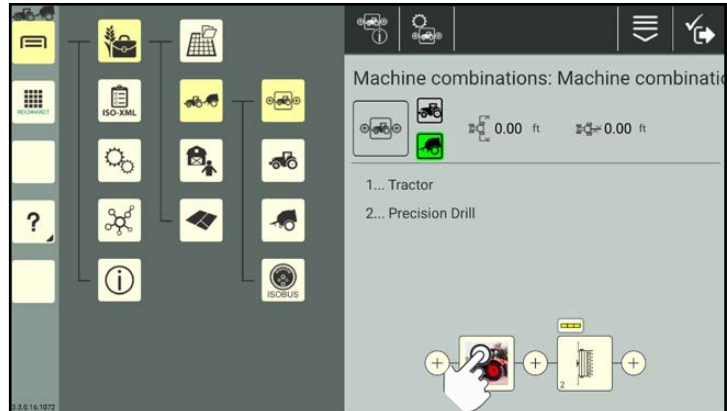

Fig. 315: Tapping the machine combination element
The new machine combination element is then displayed in the machine combination configuration (see Fig. 315).
1. Tap the corresponding machine combination element in the machine combination configuration (see Fig. 315).